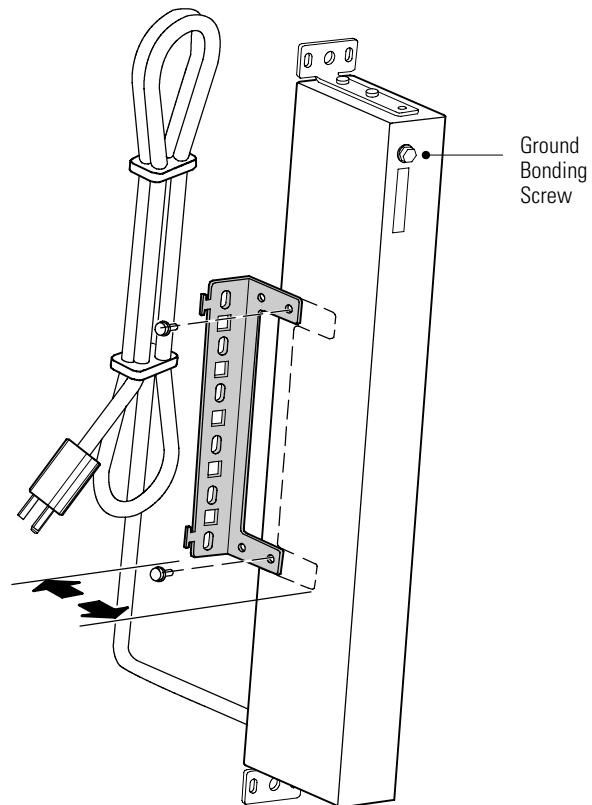

Figure 6. 0U Universal Mounting Bracket Installation (1U Model Shown)
2. Align the universal mounting bracket with the screw holes on the bottom of the ePDU (see Figure 6).
2. If your rack has conductors for grounding or bonding of ungrounded metal parts, connect the ground cable (not included) to the ground bonding screw on the ePDU rear panel. Figure 6 on page 12 shows the location of the ground bonding screw.